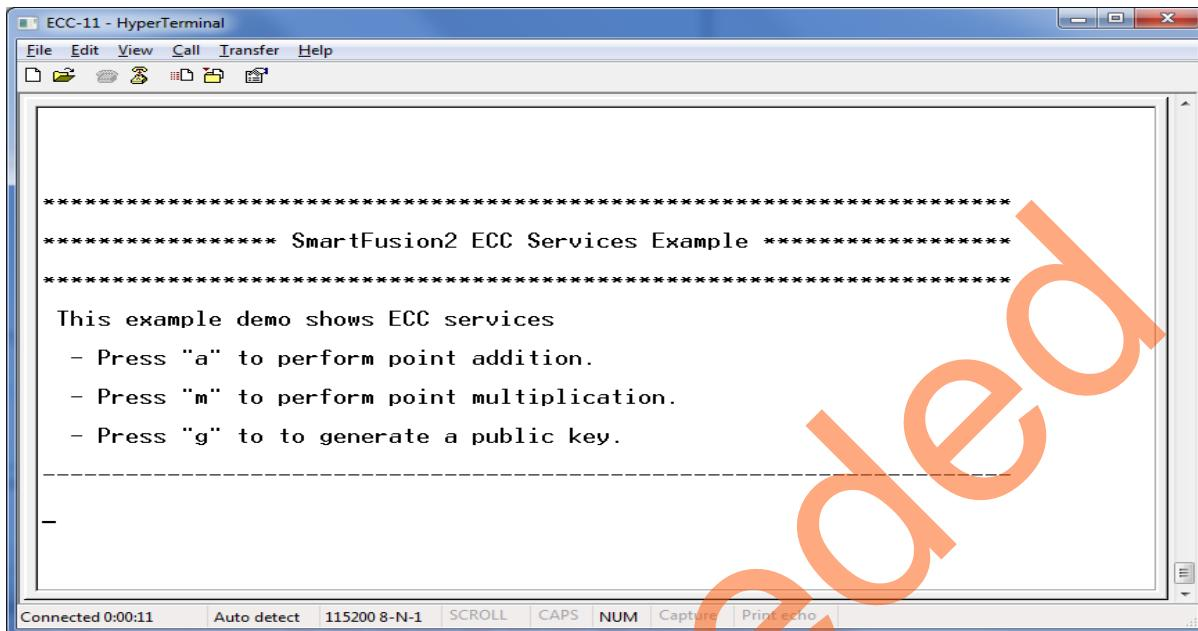

Figure 7 • Welcome Message
4. After programming, HyperTerminal displays a message to run the ECC Services as shown in Figure 7.